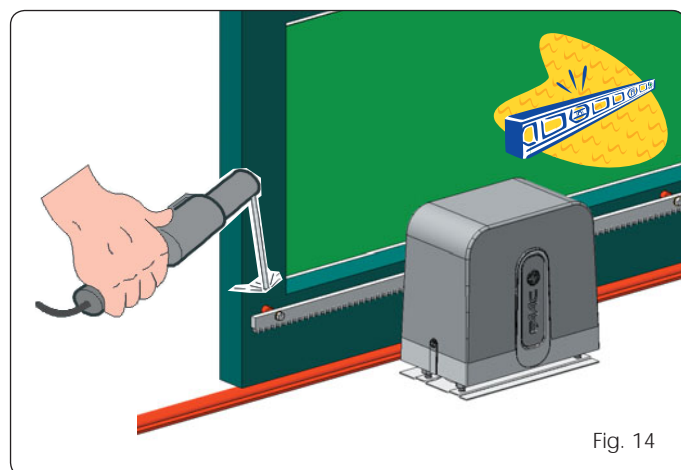

Fig. 14
3. Lay the first piece of rack level on the pinion and weld the threaded pawl on the gate as shown in Fig. 14.